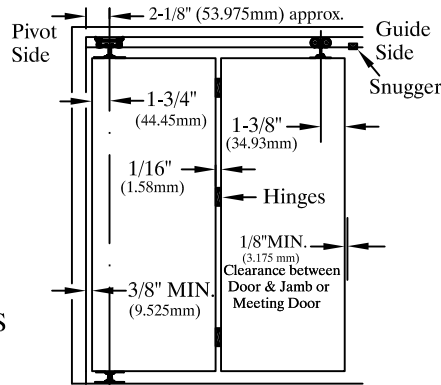
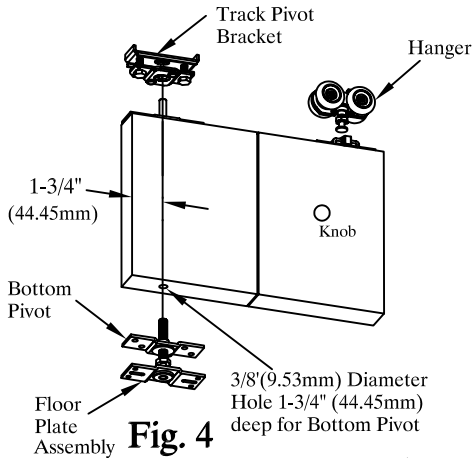

Fig. 1 2 OR 4 PANEL BI-FOLD
Fig. 4
Mount Track flush against Jamb at Guide Side, not Pivot Side. (see Fig.1)
3. Track Pivot Bracket should be placed so center of the Pivot Slot is approximately 2-1/8" (53.975mm) from Jamb as shown (Fig.1)
4. Mount Pivots 1-3/4" (44.45mm) from door edge as shown in Fig.4. Mount Hinges and Door Plate Assy's. as shown in Figs. 1, 2 or 5, so that **CENTER OF HANGER BOLT** is in correct location: